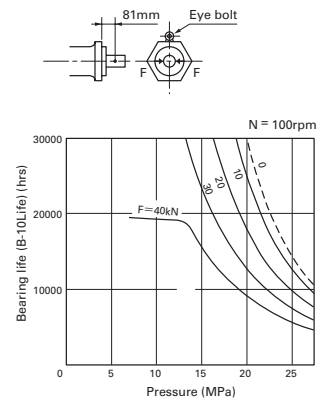

Fig. 3
2. In order to maintain the maximum bearing life, when a radial load is imposed on the output shaft the motor should be installed as illustrated in Fig. 2 or Fig. 3.